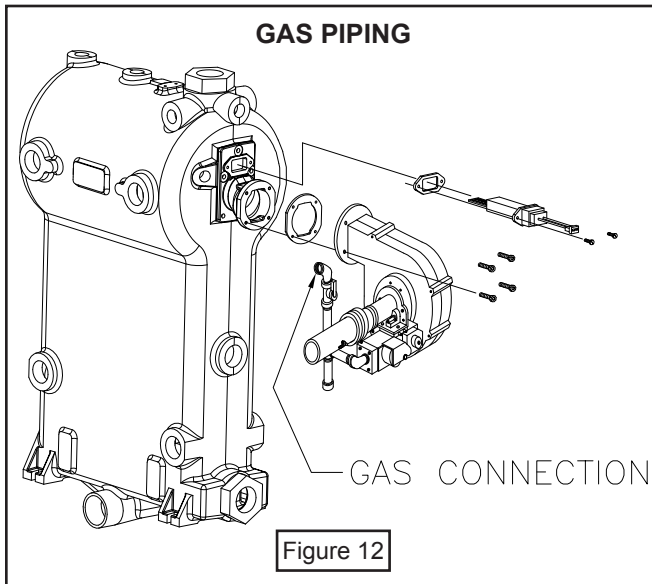

Figure 12
Refer to Figure 12 for the general layout at the boiler. The gas line enters the boiler through the left side panel.
Set heat anticipator at 0.7 amps. Connect 24 volt thermostat leads to the two (2) yellow wires located in service switch junction box, located on outer jacket of boiler. See Figure 12 for service switch junction box and thermostat field wiring connections.